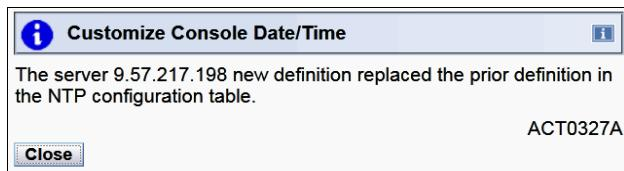

Figure 8-25 NTP setting change confirmation window
8. The next window (Figure 8-25) indicates that the modification has completed successfully. Click **Close**.